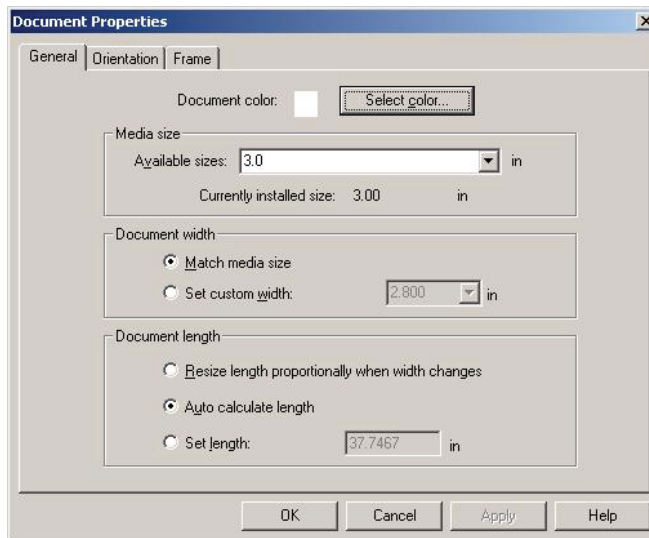

Figure 3-9. Document Properties Dialog Box: General Tab
- Select **Document>Properties** or click . The *Document Properties* dialog box (Figure 3-9) displays.
1. Select **Document>Properties** or click . The *Document Properties* dialog box (Figure 3-9) displays.